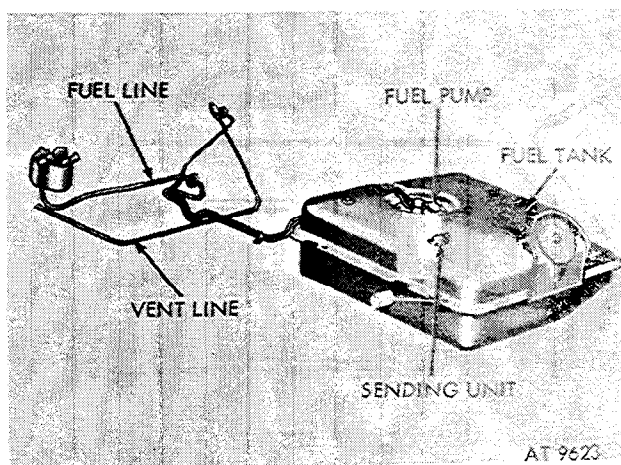

Figure 2-79. Fuel and vent lines on M151, M151A1, M151A1C, and M718.
a. *General.* The units comprising the fuel and air intake system include the carburetor, air cleaner, fuel pump, fuel filter, fuel tank, connecting fuel lines, and electric wiring for the fuel pump. Figure 2-79 is a view of the fuel and vent lines. Figure 2-80 is a schematic of the accelerator pedal, throttle, and choke control.